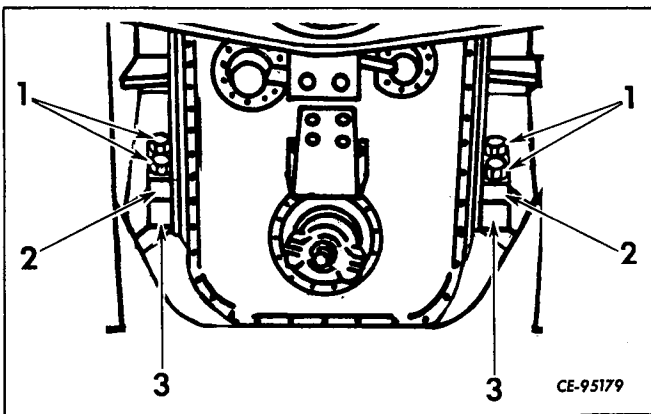

Figure 4-14
Remove the cap screws (1, Fig. 4-14) that secure the pin support caps (2) to the pin supports (3). Remove the caps.
Attach a long chain (1, Fig. 4-17) to the lifting eyes (2) and lower the transmission out of the tractor. It will be necessary to raise the transmission high enough to clear the pin supports (3, Fig. 4-14).